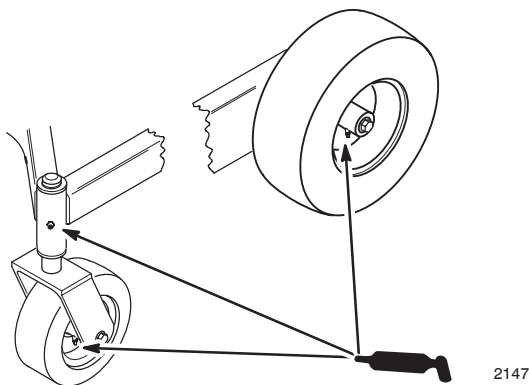

Figure 33
- Grease the wheel bearings and front spindles (Fig. 33).